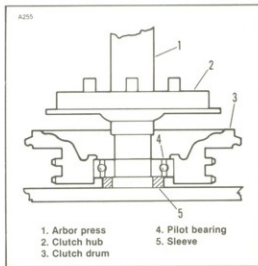

Figure 6-39. Pressing Hub into Pilot Bearing
- See Figure 6-39. Place drum (3) on arbor press with inner race supported by a sleeve (5). Press hub into bearing against hub shoulder.
- Use lock ring pliers and install external circlip (7) into groove next to pilot bearing.